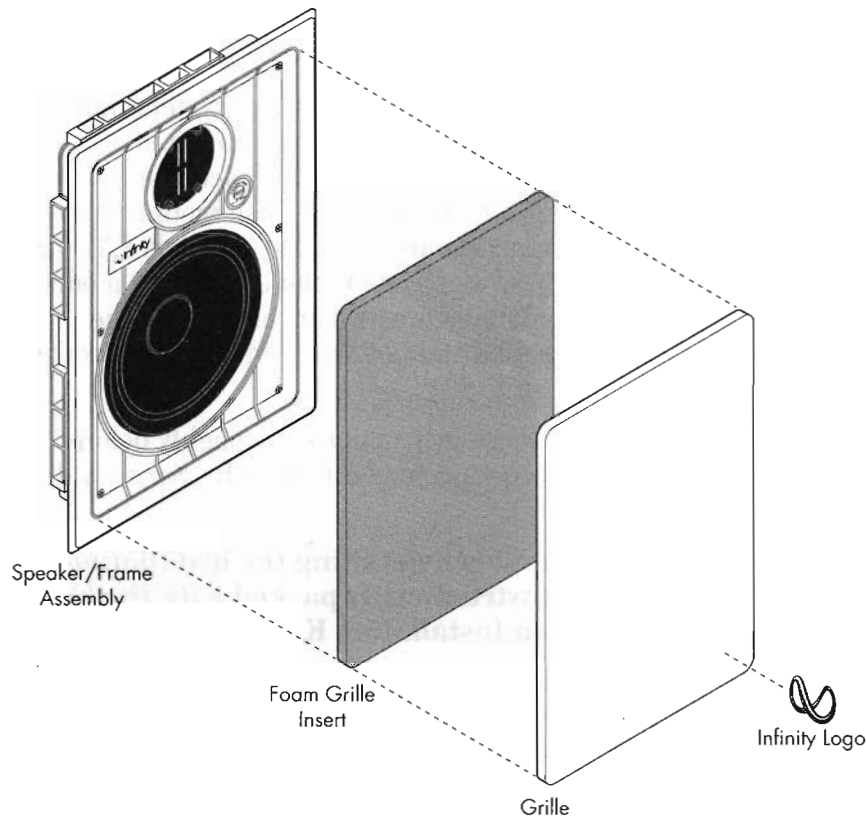

Figure 1. Drawing shows assembly procedure (ERS Model 820 is shown).
3. Verify that the package includes two sets of the following items (one for each speaker), as shown in Figure 1 (on next page):